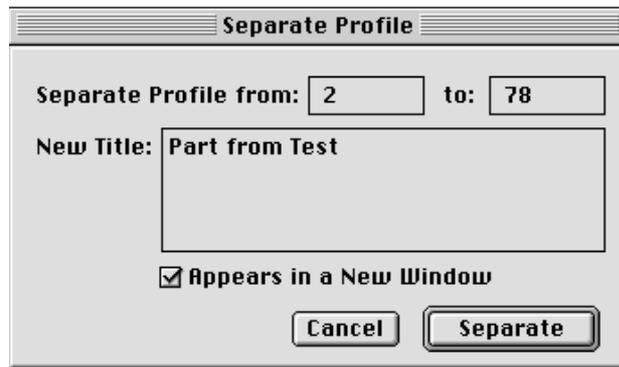

Fig. 21
**Separate...** offers the possibility to reserve a section as basis for a new diffractogramme, optionally in a new window (cmp. Fig. 21)